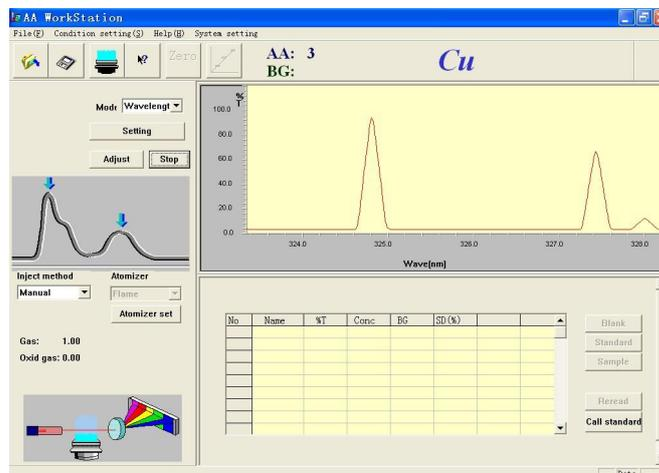

Figure 9-5
- For example, set the range of wavelengths to be 300 - 350nm, the transmittance range to be 0-100%, and the scanning interval to be 0.1 s. Press "OK" to close the "Wavelength setup" dialog. Press "Start" to start scanning, and the spectrum will be shown in real time. See Figure 9-5.